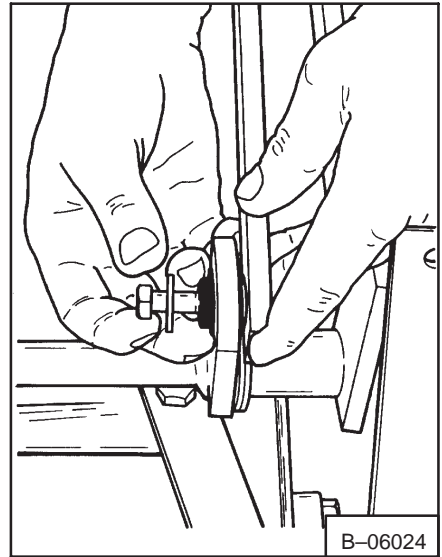

Fig. 3-17 Steering Linkage Bolts
2. Remove the nuts and bolts at the steering levers (Fig. 3-17).